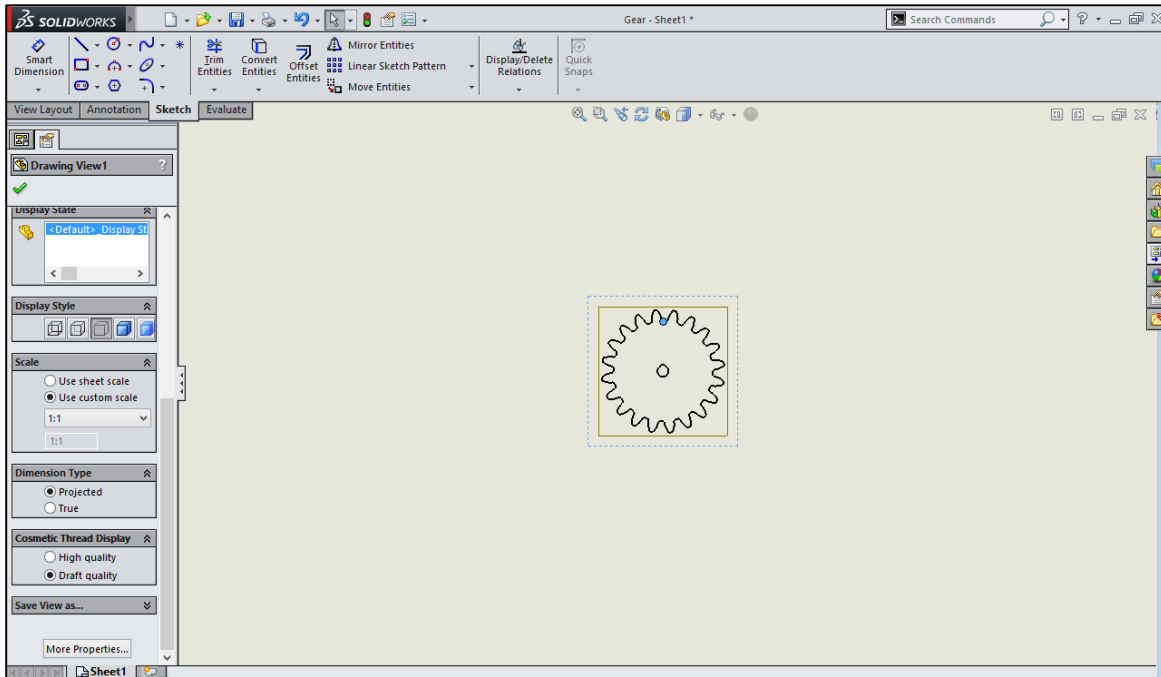

Figure 5
- 3 On the 'Projected View' side menu, scroll down to the 'Scale' dropdown and choose 'Use Custom Scale'. Then select 1:1 (Figure 5). Then click the green check mark.